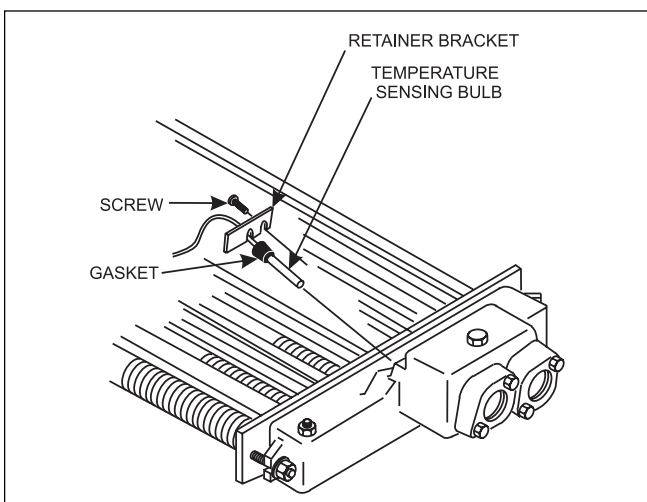
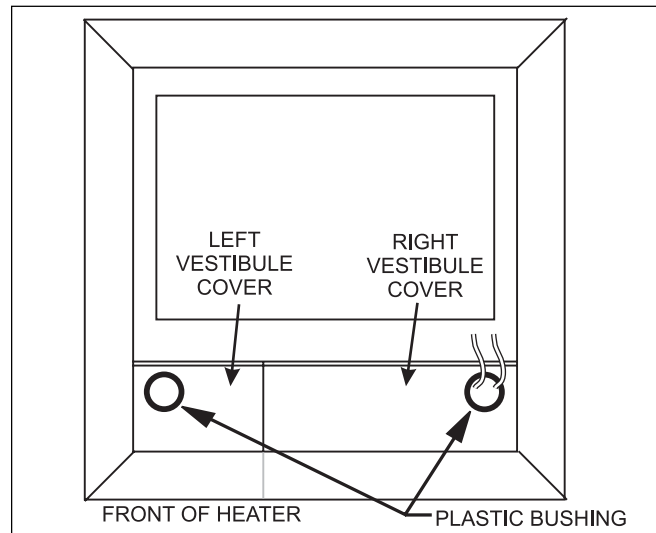

Figure 9. Temperature sensing bulb.
Figure 10. Vestibule covers.
10. Loosen the screw securing the temperature sensing bulb retainer bracket. Slide the retainer bracket off the bulb flange and remove the bulb from the header (see Figure 9). Pull pressure switch tube through the hole in the vestibule cover and into the vestibule (controls compartment), then pull the thermostat bulb assembly through same hole (see Figure 10).